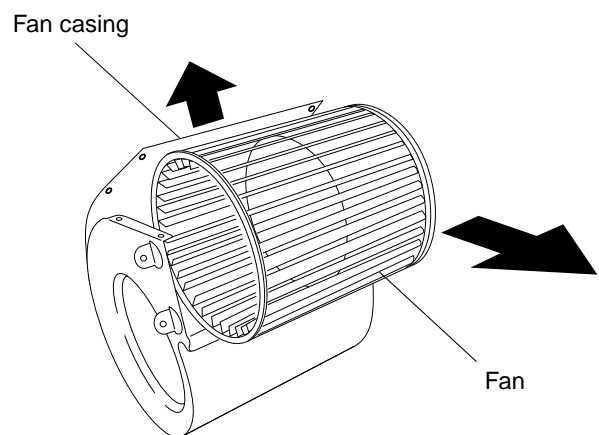

Fig. 8
(5) Gently lift the opening of the fan motor casing to access the fan. (Fig. 8)